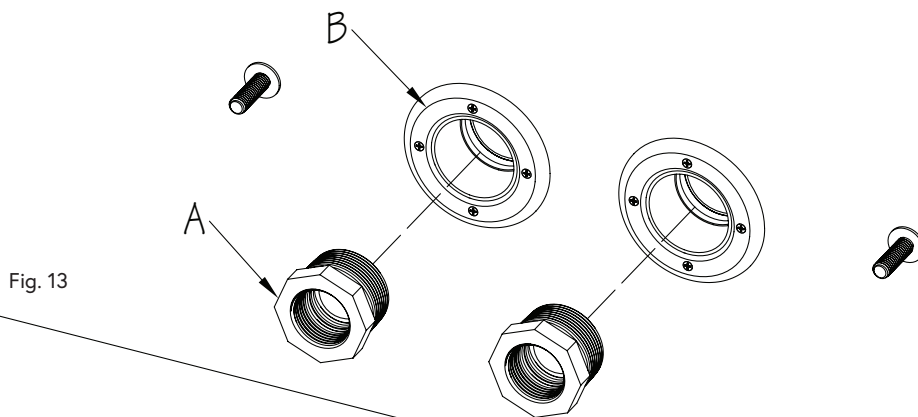

Fig. 13
11. Apply Teflon sealant to the threads of each Bushing Reducer (A) and then thread them into the Star Thru-Wall fittings (B) (Fig. 13).